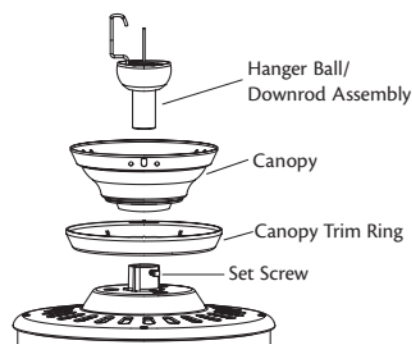

Figure 12 - Assembling the downrod
- Insert the downrod through the canopy and canopy trim ring as shown in Figure 12. Feed wires from the fan through the downrod.
- Screw the downrod into the fan assembly until tight. **IMPORTANT!** Tighten downrod set screw as shown in Figure 12.
- Completely remove the set screw (identified in Figure 12) from the fan adapter.